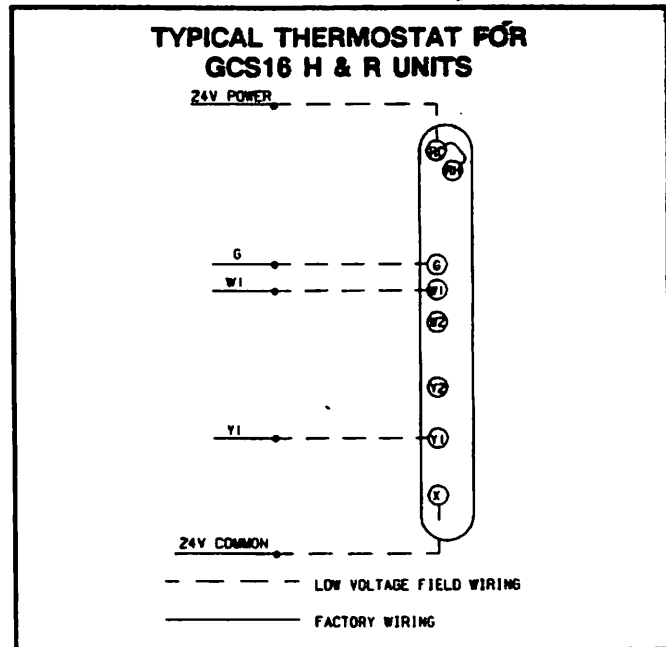
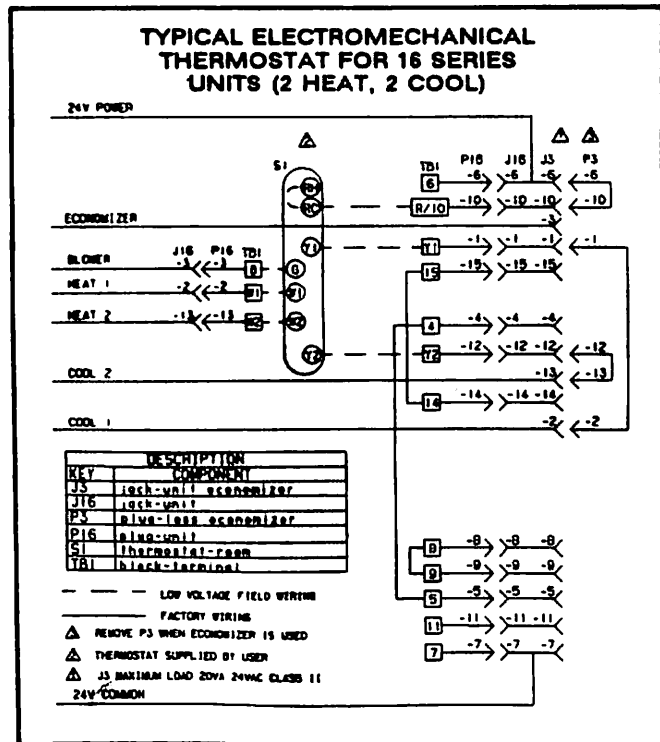

FIGURE 10
FIGURE 11
- 2- Make sure the thermostat is located where it will not be affected by sunlight, drafts or vibration. A position approximately 5 feet (1.5 m) from the floor, near the center of the structure is desirable. Connect low voltage wiring to thermostat and to unit. Refer to figure 10 for GCS16H and GCS16R series units. All other units refer to figure 11 for thermostat wiring.